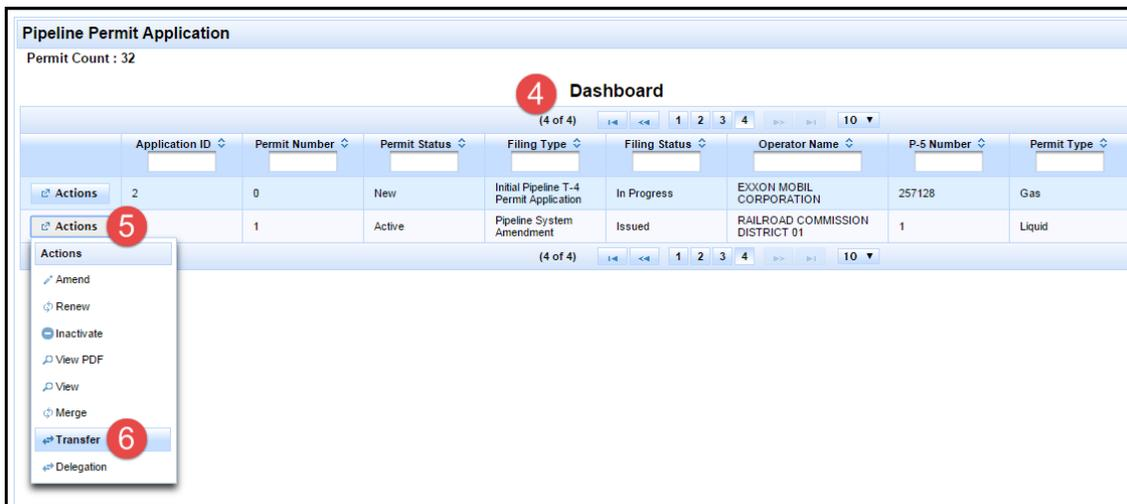

Figure 67: Transfer a Segment, Steps 4 to 6
6. Click **Transfer** on the dropdown, as depicted in Figure 67.